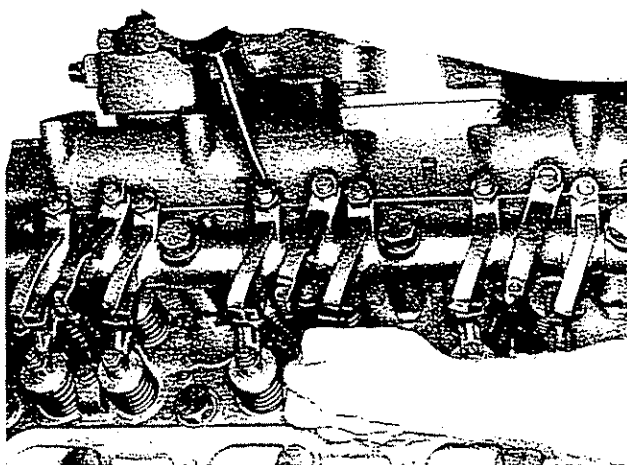

Fig. 2-41, (V51492). Adjusting valves — V-903
1. Loosen the locknut and back off the adjusting screw. Insert a feeler gauge between the rocker lever and the top of the crosshead. Fig. 2-41. Valve clearances are shown in Table 2-11. Turn the screw down until the lever just touches the gauge, and lock the adjusting screw in position